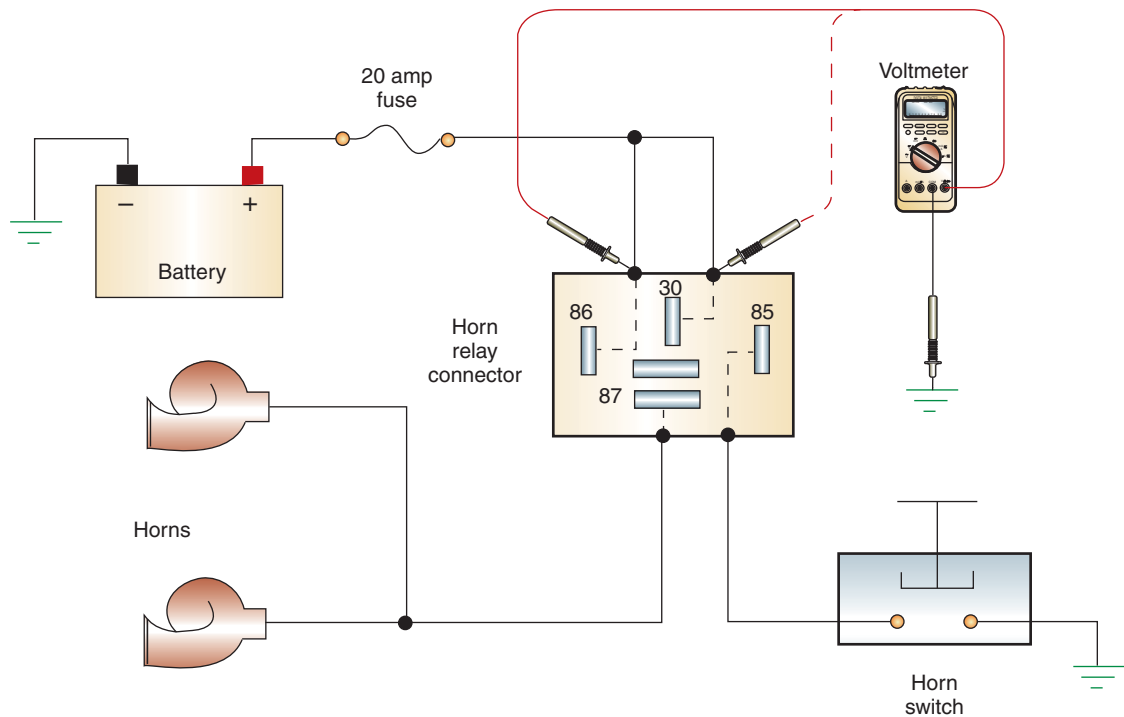

FIGURE 14-1 Testing for voltage to the relay connector.
3. Remove the relay from its connector and check for voltage at terminals 30 and 86 (Figure 14-1). If there is no voltage at these points, trace the wiring from the relay to the battery to locate the problem. Continue testing if voltage is present at the power feed terminals.